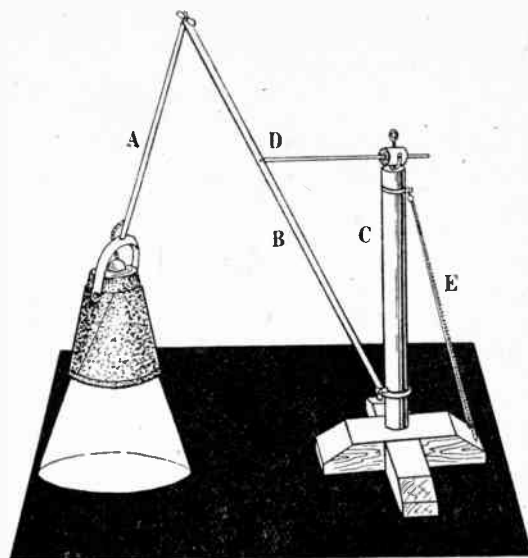

Fig. 1—The completed lamp
A brass $\frac{1}{2}$ in. stair-rod, cut down to 14ins. is then pushed through the hole in the reel. Drill a small hole, $\frac{1}{4}$ in. from the end of the stair-rod, and, after having made holes in both sides of the tube, attach the rod to the tube with a thin nail, the end of which should be bent to prevent it falling out (see D, Fig. 1). Use the screw in the cotton reel to adjust the brass arm. (If preferred, instead of the brass rod use a brass chain, with a small weight at the end. You will still, however, need the screw).
Cross the wood by making a simple joint, and fasten with four nails, which must be kept well away from the centre. Taper the ends of the wood (Fig. 1).
Then drill a $\frac{3}{8}$ in. hole in the centre, to a depth of 2ins. Into this insert the remaining tube, 12ins. $\frac{3}{8}$ in. diameter. Hammer it well in, and make sure it is a tight fit. Put a little padding around it, and then place over it the large tube (C) (Fig. 1), which should swing easily.
Two 7 $\frac{1}{2}$ ins. springs (E) (Fig. 1) help to improve the appearance of the angle lamp, but they are not essential. They can be fastened to the large tube with a strip of tin, 5ins. $\frac{1}{2}$ in. diameter.